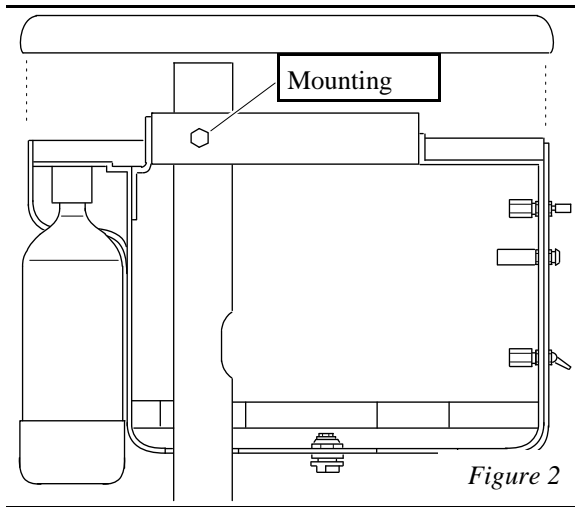

Figure 2
**3. Install the post mount utility center on the post (Figure 2).**
6. One end of the fiber optic handpiece tubing has a nut attached. Hang the nut in one of the handpiece holders on the control head. Route the other end of the tubing (with the fiber optic bundle and ground wire) into the control head, through the hole indicated in **Figure 2**. Cut the handpiece tubing to the desired length and connect to the handpiece block.
7. Route the fiber optic bundle and ground wire through the hole indicated in **Figure 2**, along the short control arm, through the knuckle at the end and along the bottom of the flex arm. Feed them through the knuckle at the end of the flex arm and bring them out through the open end of the rigid arm, next to the 1/8"orange tubing.